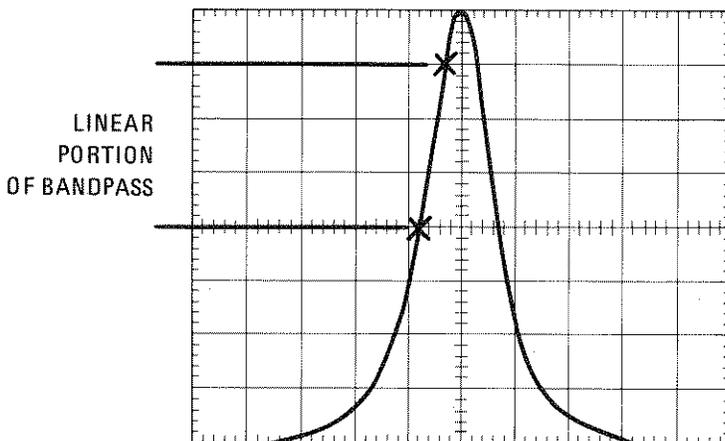

Figure 4-8. Spectrum Analyzer Display for Residual FM Test
6. Reduce RESOLUTION BW to 100 kHz and FREQUENCY SPAN/DIV to 100 kHz while keeping the signal centered with the FINE TUNING control. The spectrum analyzer display should be as shown in Figure 4-8.